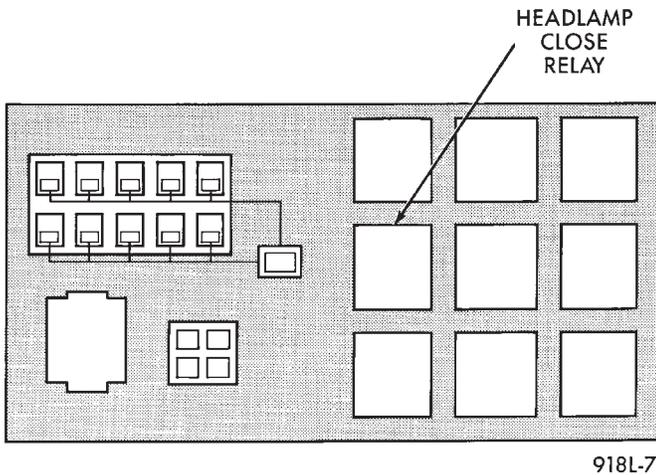
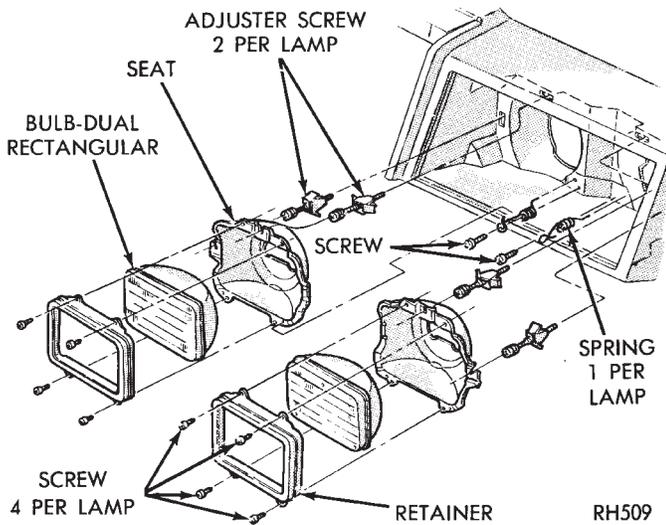

Fig. 2 Headlamp Close Relay
Fig. 3 Sealed Beam Replacement—Typical
- (3) Remove the Headlamp Close Relay (Fig. 2) to prevent the headlamp doors from closing.
- (4) Turn the headlight switch OFF.
- (5) Remove screws from headlamp bezel and remove bezel, if equipped.
- (6) Remove screws from interior retaining ring (Fig. 3), and remove ring.